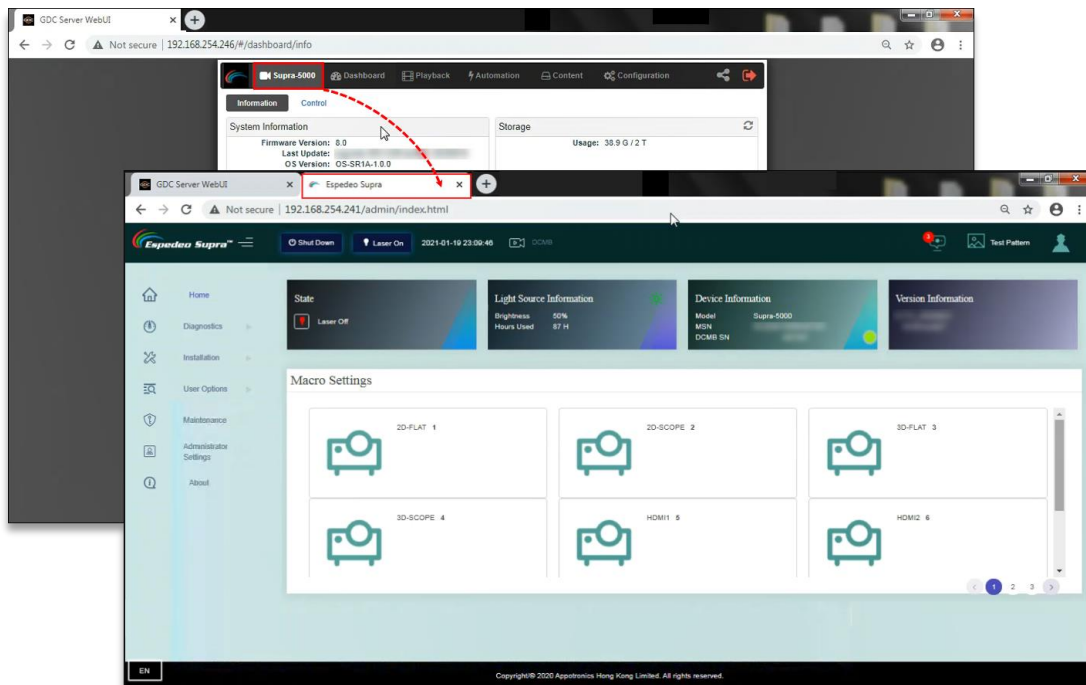

Figure 19:
- a. When the **Single tab mode** option is disabled; you can click on the '**Supra-5000**' tab to open and access the Supra Command Center web interface in a new browser tab (as shown in **Figure 19**).